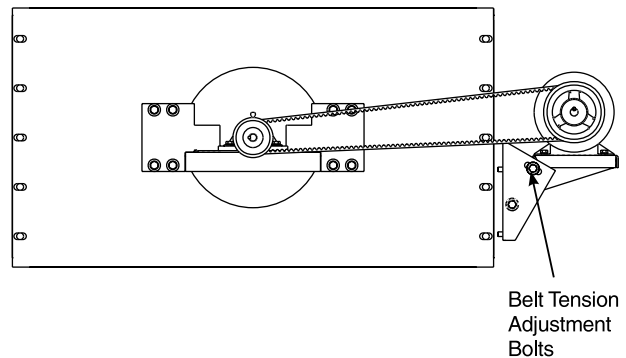

Figure 4-40.
3. When replacing the belt, loosen the tension adjustment bolts (Figure 4-40) on the motor mounting bracket. Next, pull back on the motor. Retighten adjustment bolts. Do not overtighten because the fan bearings may be damaged.